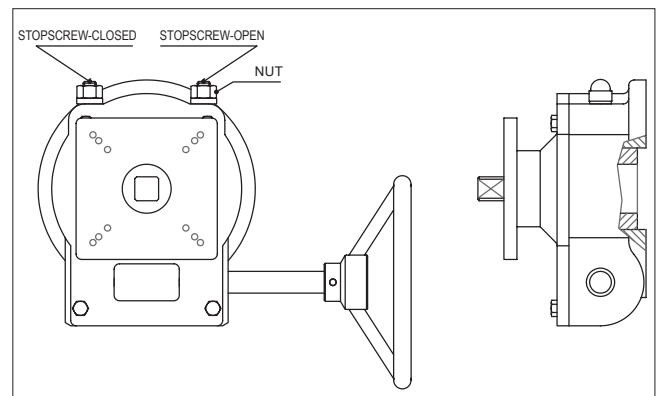

Figure 8.
4. Open Stop: Turn the gear handwheel counter clockwise until it stops. Turn-in the gear open stop screw (**Figure 8**) until it stops and then tighten the lock nut.
5. Close Stop: Turn the gear handwheel clockwise until it stops. Turn-in the gear close stop screw (**Figure 8**) until it stops and then tighten the lock nut.